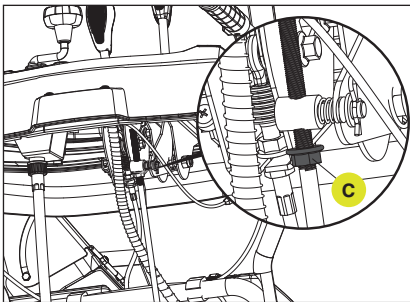

Figure 40
2. Below the panel, loosen the nut (C) counterclockwise. (Fig. 40)